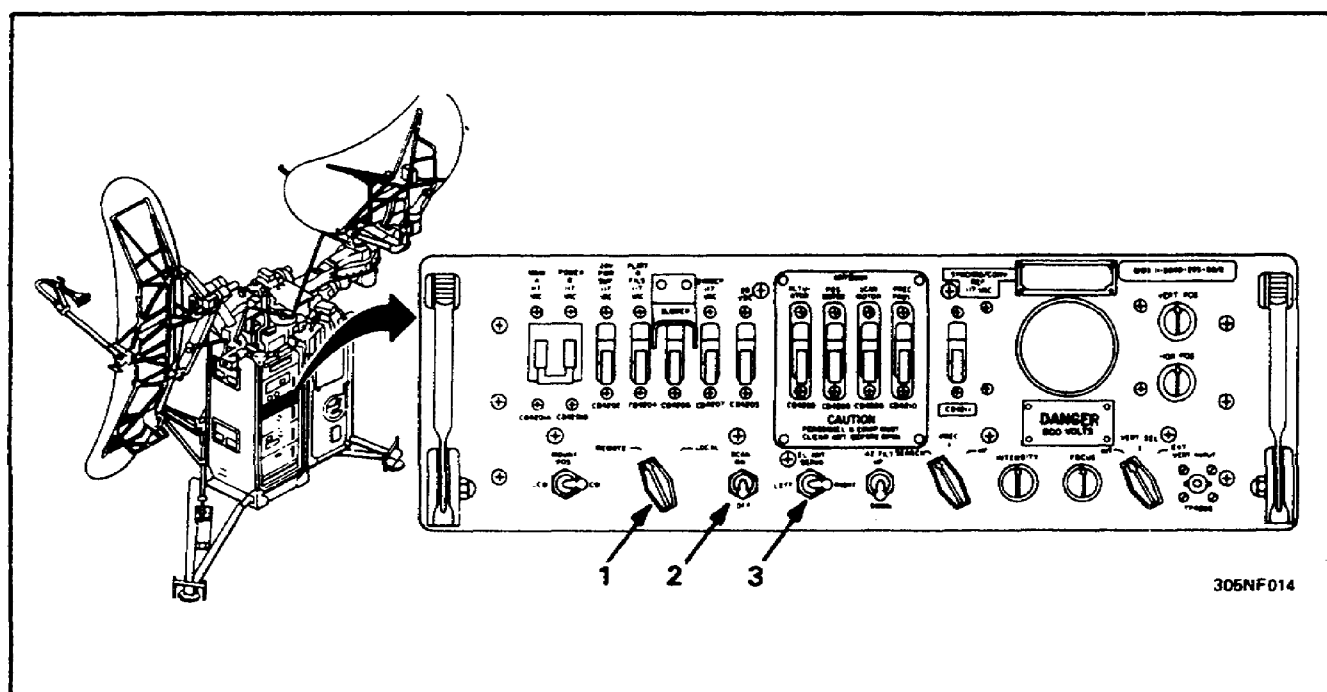

Figure 28. Control monitor C-2124A/FPN-33.
e. Locate the following on control-monitor C-2124A/FPN-33. (See Figure 28.)
- (1) LOCAL-REMOTE switch S4203.
- (2) SCAN switch S4201.
- (3) EL ANT SERVO switch S4205.
- _____ LOCAL-REMOTE switch S4203 (Figure 28)
- _____ SCAN switch S4201 (Figure 28)
- _____ EL ANT SERVO switch S4205 (Figure 28)